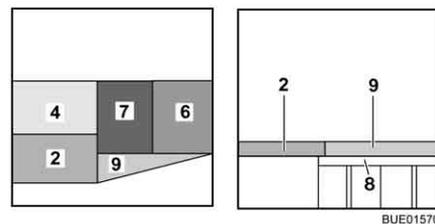

Fig. 160 After conversion
- Place the seat cushion (Fig. 160,7) in the centre.
- Insert the back cushion (Fig. 160,6) between the seat cushion (Fig. 160,7) and the wall.
- Place the additional cushion (Fig. 160,9) on the bed widening.